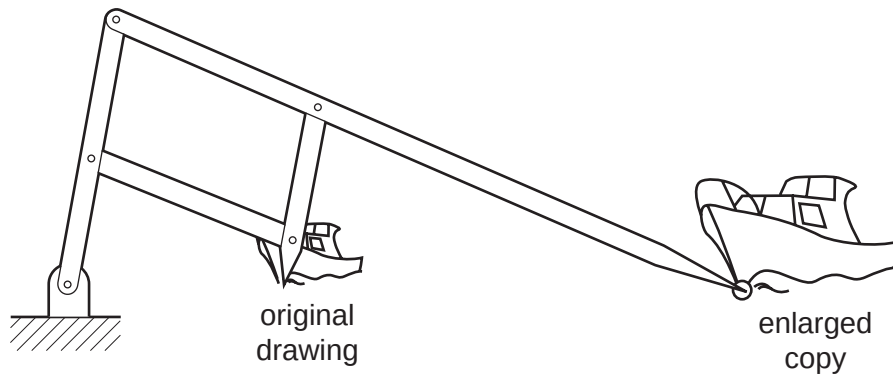

Fig. 7
- (e) Fig. 7 shows a pantograph linkage used to produce enlarged copies of drawings.